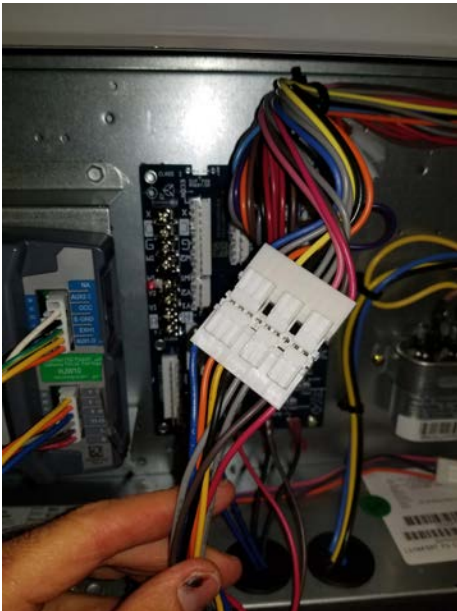

Figure 9 – Connect 10-pin Plugs Together
Step 12: Connect the 10-pin female ECON plug removed from the CTB to the 10-pin male plug from the Jade controller. See Figures 9 and 23.